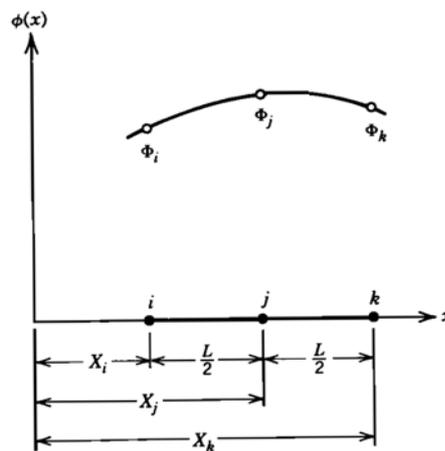

Figure 3
- The shape functions for the quadratic element shown in Figure 3 are